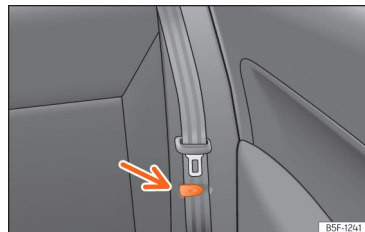

Fig. 92 Rear seat: clip to hold the seatbelt in place.
- Place the side seat belts in the trim clip »» **Fig. 92**.